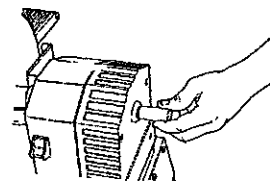

Fig.H-15
1. Turn off and unplug the Power Station, then remove the safety key (35) from the switch.
2. Remove the outer shaft cover (40) from the outer shaft. See Fig.H-15.